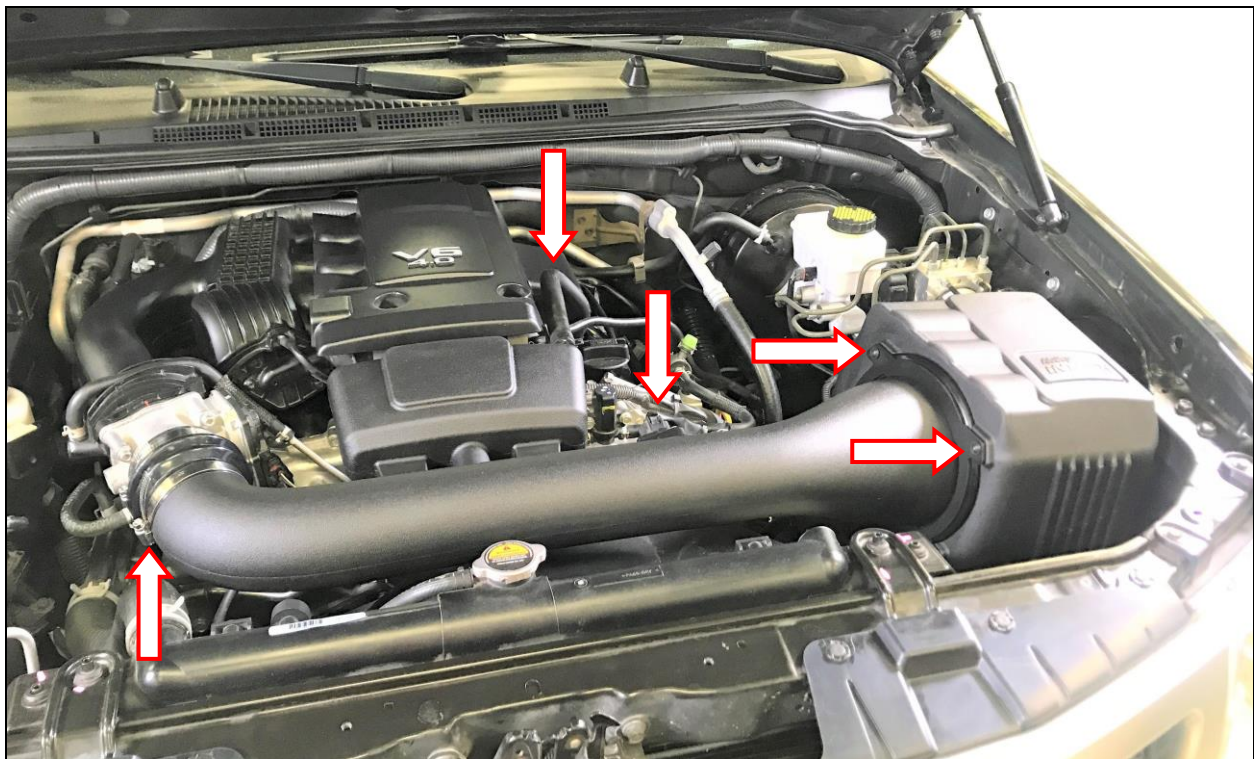

Figure 4
15. Install the iNTECH housing into the vehicle by aligning the grommets with the studs, then firmly pressing down **(Figure 4)**.
16. Secure the iNTECH housing with the previously removed factory airbox screw, and then tighten **(Figure 4)**.
17. Install the iNTECH air filter into the iNTECH housing by firmly pressing into housing until filter is fully seated **(Figure 4)**.
18. Install the supplied silicone coupling on the throttle body and secure with a provided hose clamp, then tighten **(Figure 4)**.
19. Slip the provided metal ring over the large end of the iNTECH tube, then insert the tube into the air filter until you feel a 'lock' **(soap and water or equivalent will help with inserting the tube into the filter) (Figure 4)**.
20. Rotate and align the tube with the throttle body and coupling. Insert the tube into the coupling **(Figure 4)**.
21. Align the holes in the ring with the brass housing inserts and secure with the provided M6 screws **(Figure 4)**.
22. Install the remaining hose clamp over the coupling and tighten **(Figure 4)**.
23. Reconnect the MAF sensor wiring harness to the MAF sensor on the intake tube **(Figure 4)**.
24. Reconnect the CCV hose to the intake tube, sliding the factory metal spring clip over the fitting to secure **(Figure 4)**.